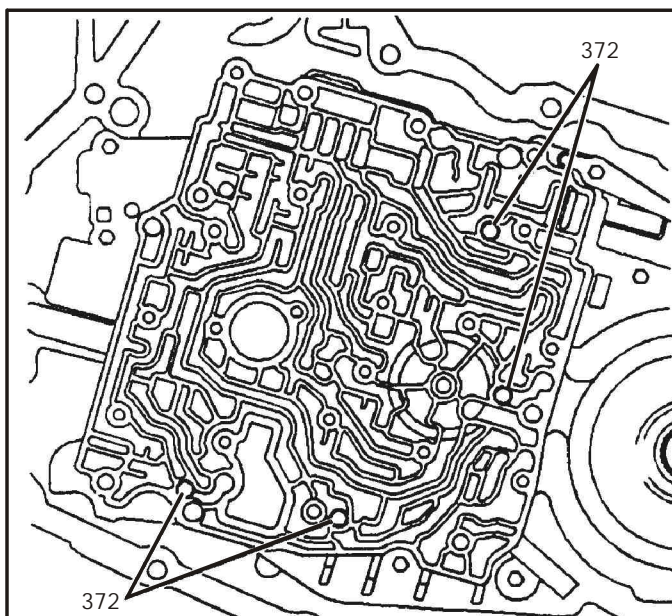

Figure 52
17. Remove the four 1/4" diameter checkballs from the channel plate, as shown in Figure 52.